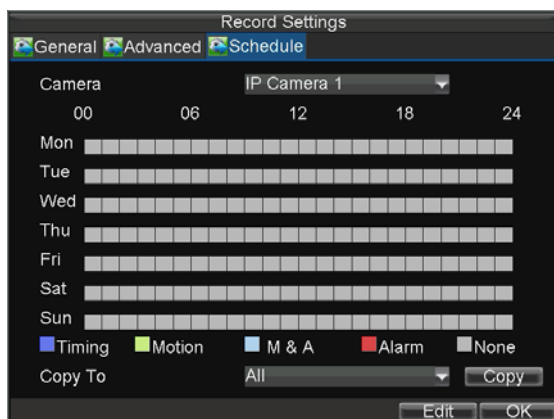

Figure8. Schedule Settings
17. Select the **Schedule** tab, shown in Figure 8.